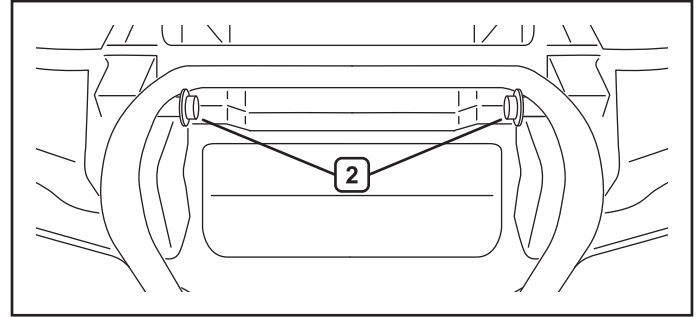
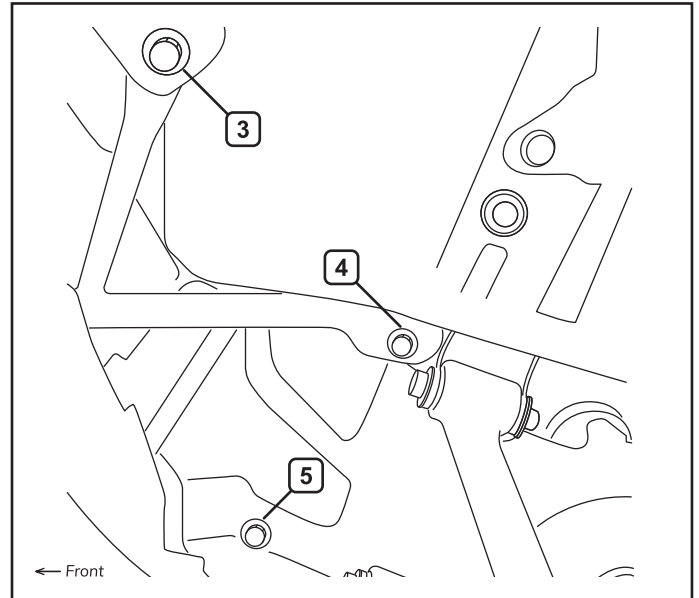

Figure 2.
Figure 3.
2. Remove front bumper by removing eight bolts (2, 3, 4, 5) and two nuts, as shown in figures 2 and 3.
6. Install the bumper assembly to the machine. Start with the upper bolts (2) and nuts marked in figure 2, followed by the remaining bolts (3, 4, 5) as shown in figure 3. Wait to tighten until all eight bolts are in place. Tighten bumper hardware.